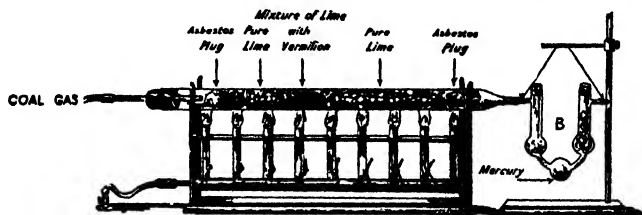

FIG. 346.—How the chemist discovers the proportion of mercury in vermilion.
weighed amount of the vermilion and mixes it with pure lime. He heats the mixture in a glass tube (Fig. 346) through which a gentle stream of coal gas is running. The lime takes the sulphur from the vermilion. The mercury turns into vapour which is carried over more pure hot lime to remove any remaining sulphur, and condenses to liquid mercury in the weighed tube (B), which contains some gold leaf, which has an extraordinary power of collecting mercury vapour. By weighing this tube (B) he finds the weight of mercury in it. If his vermilion is pure the mercury from it will be just 86.2% of the weight of vermilion he started with.